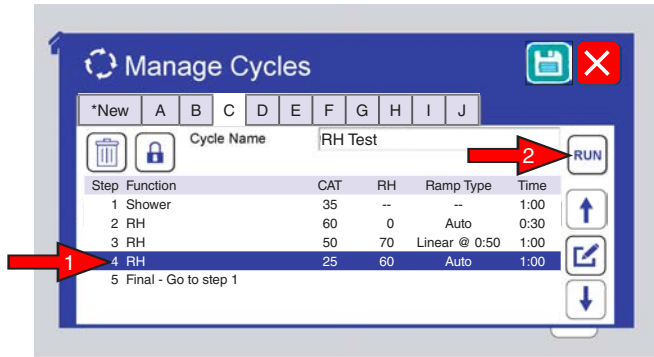
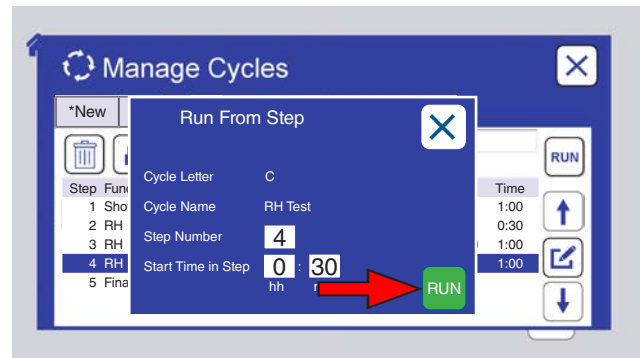

Figure 9.6.8a: A cycle can be run from a specified time in one of its steps. Select the step, then touch the RUN button
Figure 9.6.8d: Touch the Run icon to run the step from the time entered.
- o Run a cycle from any of its steps (Figure 9.6.8a through Figure 9.6.8d).
- The Q-FOG main controller can store ten (10) test cycles.
- A test cycle can consist of up to fifty (50) steps.